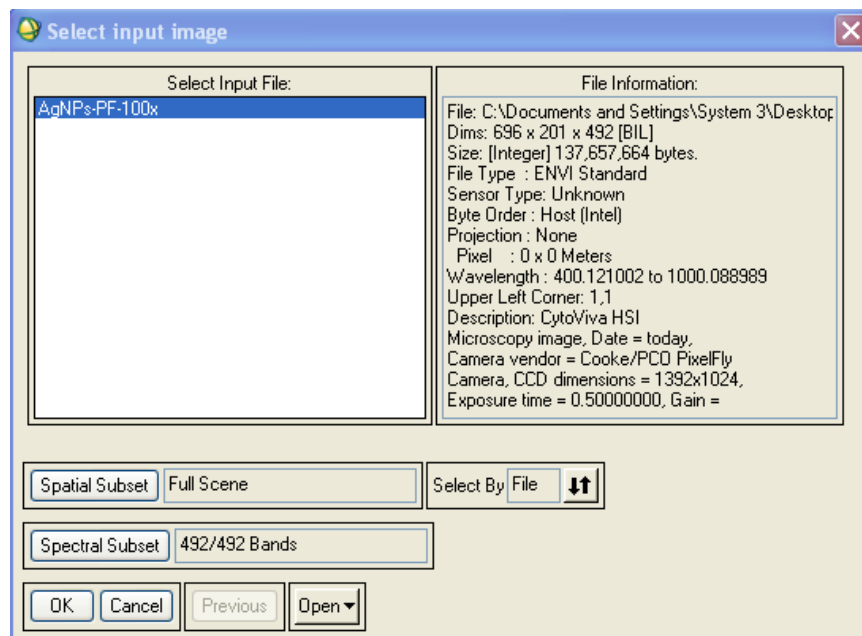

Figure 12b. Select Input Image box
- In the Select input image dialog, use Open to browse for the HSI data cube that you wish to classify and enter it. If the image was already opened it will appear in the Select Input File list. For this example we will use AgNPs-PF-100x (Figure 12b).